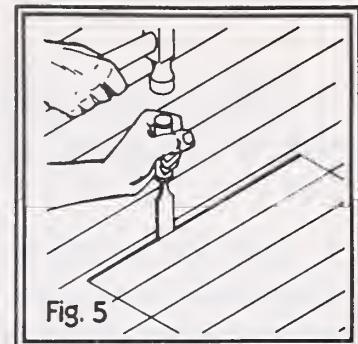

Fig. 5
5. Using the hammer and chisel, finish the cuts down to the subfloor (fig. 5). Using the pry bar, and a small block for leverage, lift out the boards to be removed (fig. 6).